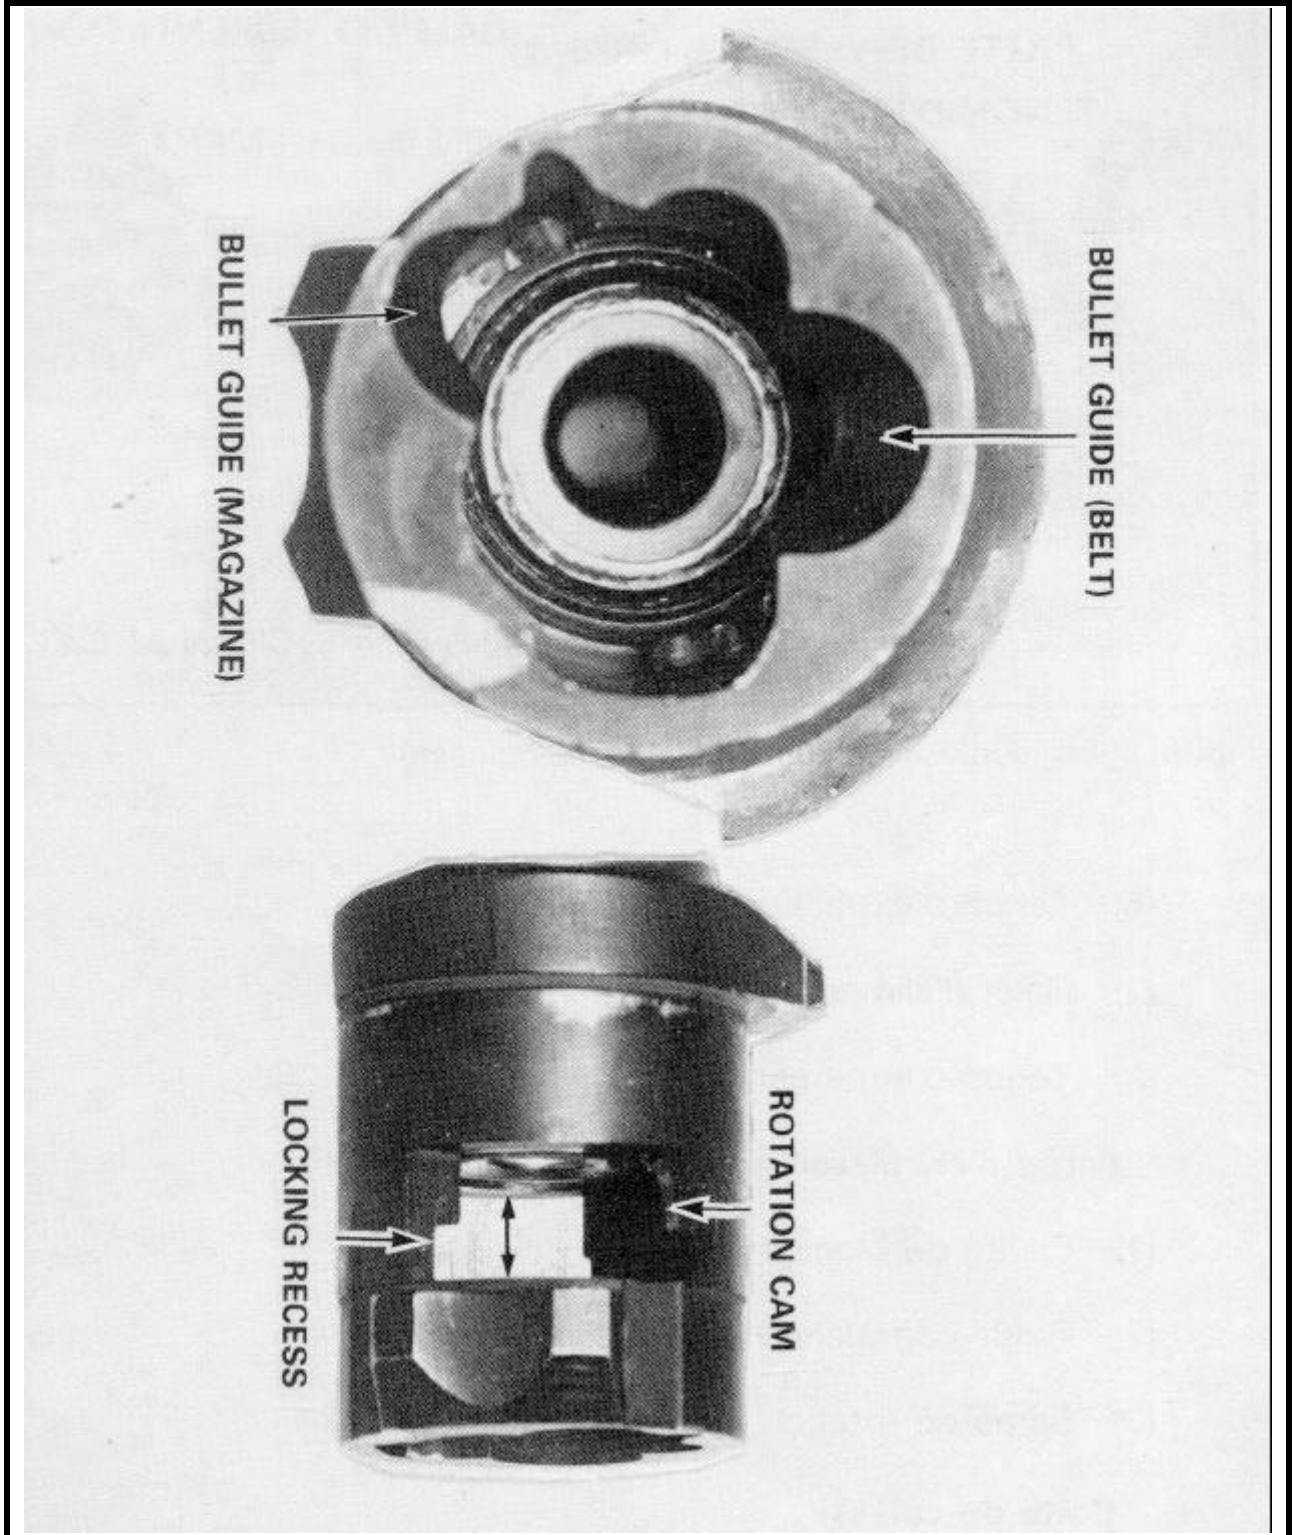

Figure 2-55 Barrel Breeching Nut
- (6) Bolt extracting lug.
- (7) Feed Roller.
- (8) Cocking lug.
c. **Barrel Breeching Nut** (Figure 2-55)
- (1) Locking recess.
- (2) Bullet guides (belt and magazine).
- (3) Bolt rotation cam.